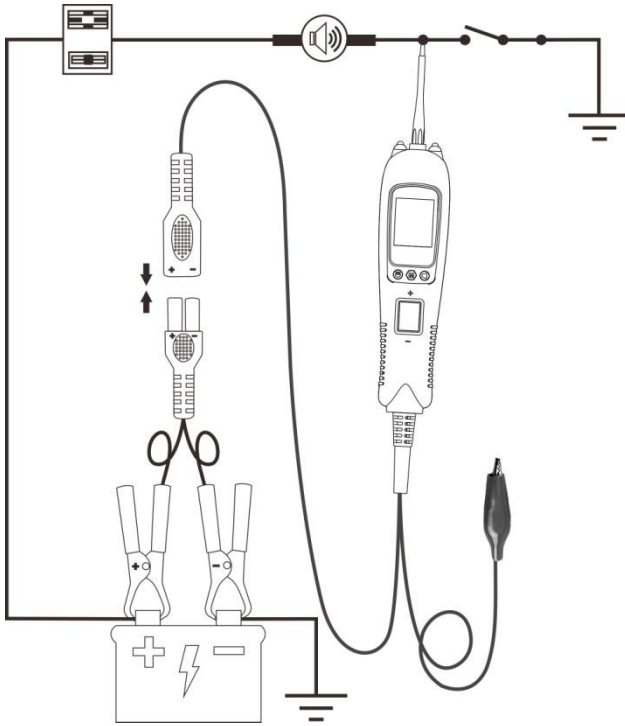

Figure 17
- 1) While the tool in DC Voltage mode, contact the probe tip to the negative terminal of the component, the red LED should light. While observing the red LED, quickly depress and release the rocker switch rearward. If the red LED went out and the green LED came on, you may proceed with further activation. (Figure 17)